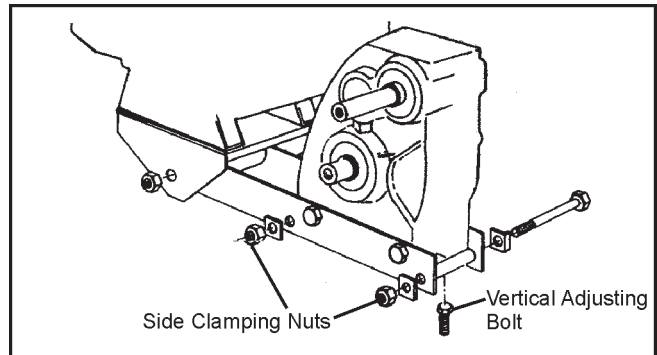

Figure 7-16. Location of power pack clamping nuts and adjusting bolts
2. Loosen the 2 left side clamping nuts with a 15/16" socket wrench (figure 7-16). Loosen the 3/8" hex nut (117-15) securing the adjustment support (602-27), just above the transmission, to the hood frame assembly. (Refer to Section 6.0 of the Parts Manual.) *Note: Avenger and Frontier models do not have this adjustment support.*
Loosen the power pack clamping nuts and adjusting bolts as shown in Figure 7-16 and proceed as follows: